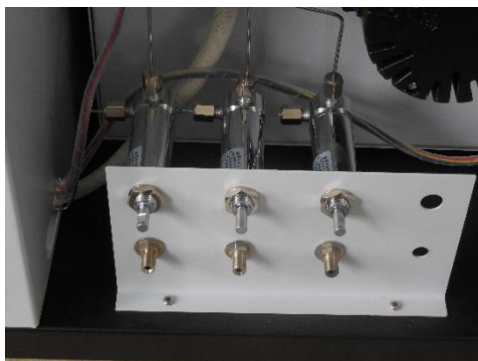

Figure 4 Figure 5(1 for carrier gas control switch ; 2 hydrogen control switch ; 3 air control switch) Where arrow thickness represents switch direction
4.3 Install the outlet of carrier gas (blue), hydrogen (Orange), air (transparent) copper pipe to the corresponding gas inlet of the chromatograph (Fig. 4) (Note: open the valve switch to control each gas (Fig. 5))